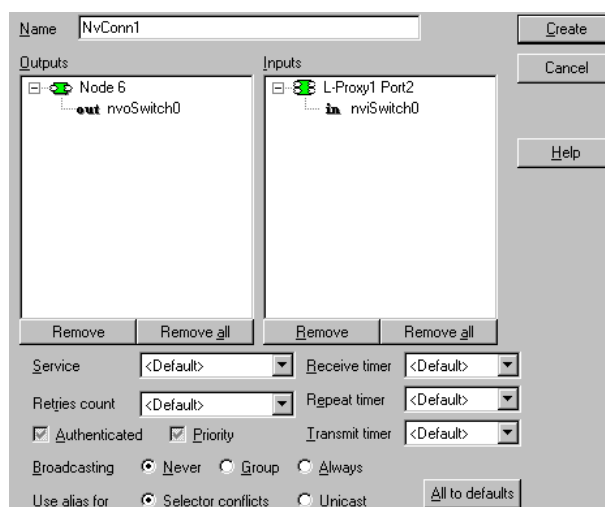

Figure 84: Connection window with the newly created L-Proxy variable and the Node 6 output variable.
8. As shown in Figure 84 the connection window in the work view (right view) includes now the nvoSwitch0 of Node 6 and the nviSwitch0 of the L-Proxy device. You can create or cancel the connection.